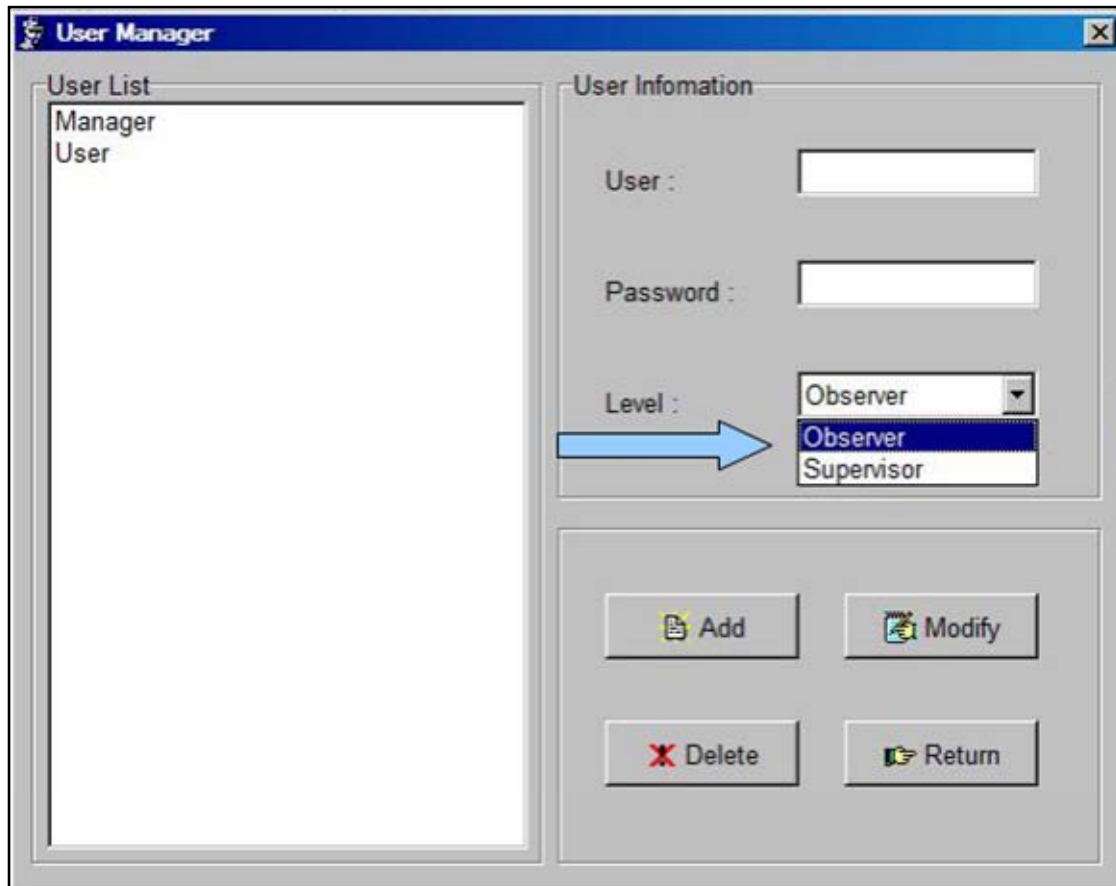

Figure 4-39. Select a User Level
1. Currently, there are two levels available for User Accounts. Once the User Manager screen is up, select the User level, as shown in **Figure 4-39**.